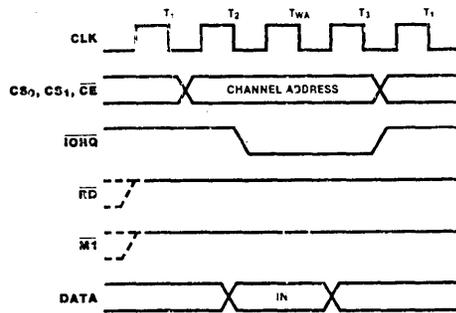

Figure 10. Write Cycle Timing
**Write Cycle Timing.** Figure 10 shows write cycle timing for loading control, time constant or vector words.